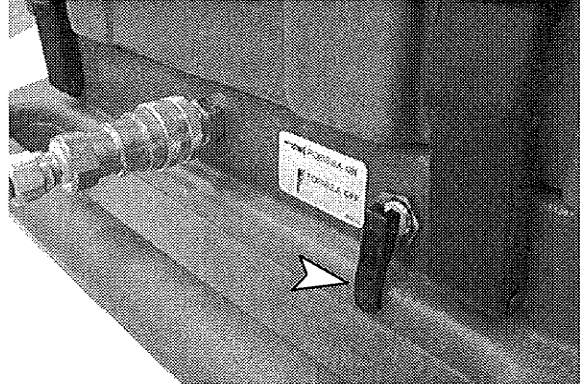

FIG. 19
4. To operate spray gun at low pressure without dispensing cleaning agent, turn FORMULA ON/OFF lever to the OFF position (Figure 19).